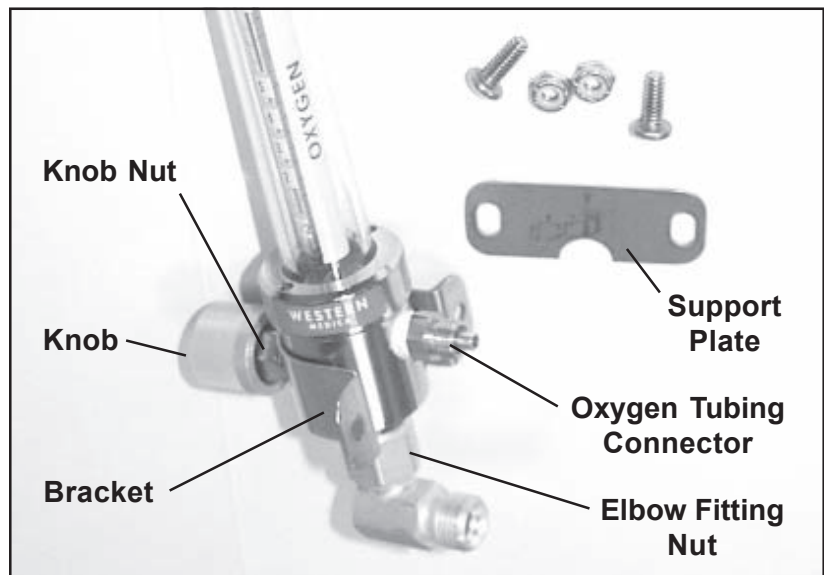

Figure 138. Oxygen Flow Meter and Related Pieces
6. With a 7/16-in. wrench, dis-connect the oxygen line (Figure 138) on the rear of the flow meter.
1. With a 5/8-in. wrench, unscrew the elbow fitting from the bottom of the flow meter (Figure 138).
1. Hold the bracket in place on the flow meter, re-attach the knob, and tighten the knob nut (Figure 138).